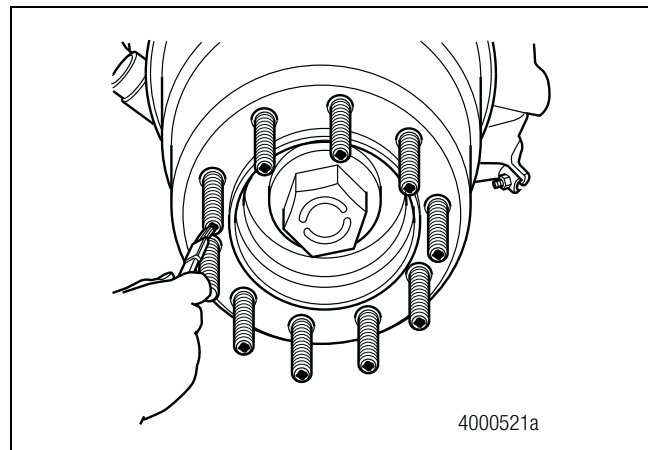

Figure 6.39
3. Mark the wheel and hub relationship. Remove the wheel and tire assembly. Use a paint stick to mark the wheel studs you are removing. Figure 6.39. Do not reuse the studs.